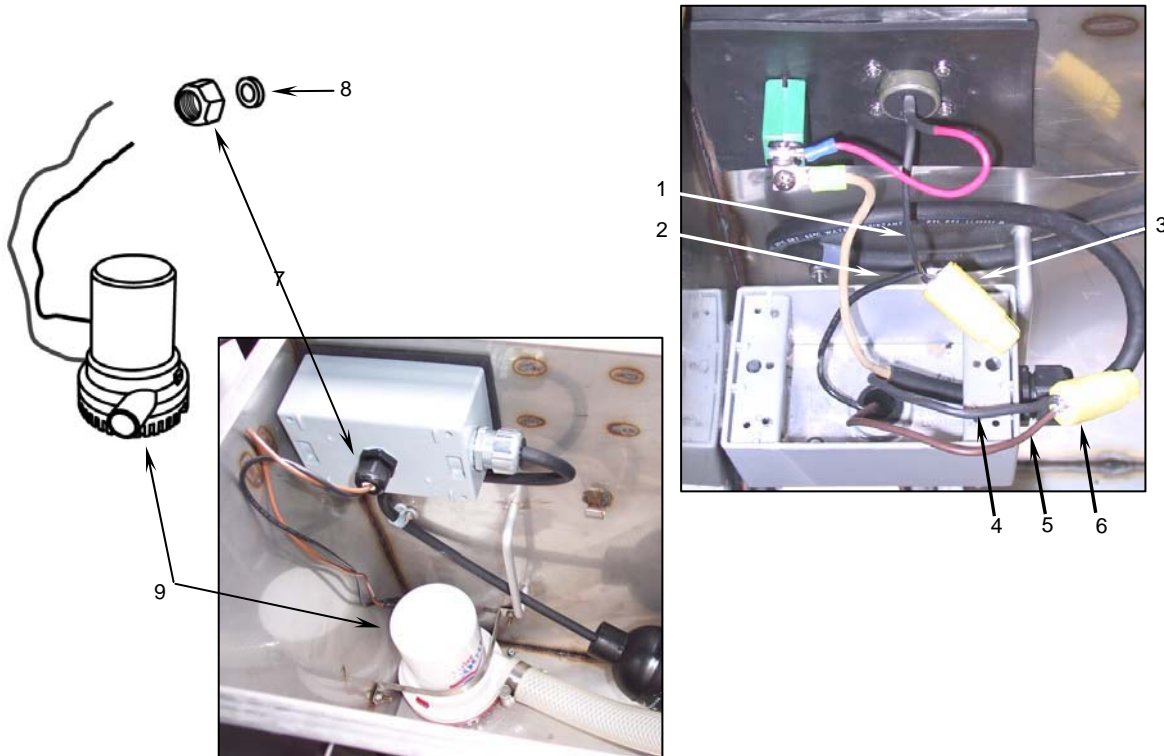

Figure 3. Disconnecting the Grease Separator Pump Wires.
- e. Tag the black electrical connector wire (**Figure 3, Item 1**) that is connected to the black pump wire (**Figure 3, Item 2**). Remove and discard the wire nut (**Figure 3, Item 3**) and separate the wires.
- f. Tag the black float switch wire (**Figure 3, Item 4**) that is connected to the brown pump wire (**Figure 3, Item 5**). Remove and discard the wire nut (**Figure 3, Item 6**) and separate the wires.
- g. Remove the pump cord connector nut (**Figure 3, Item 7**) with its sealing washer (**Figure 3, Item 8**) and pull the pump wires out.
- i. Discard the pump (**Figure 3, Item 9**).